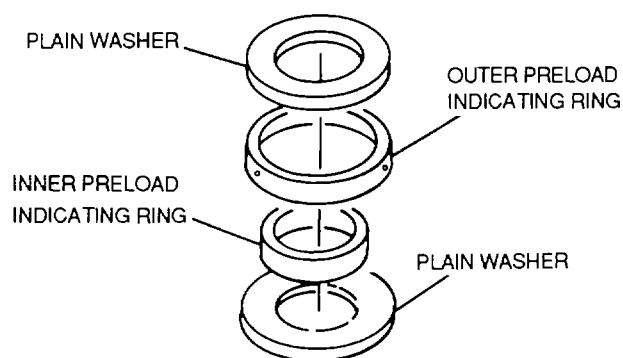

Figure 8-29. Preload Indicating Washers
b. Preload indicating Washers. The preload indicating washer, shown in figure 8-29, consists of two plain washers, one inner preload washer, and one outer preload washer. The plain washers mash the inner preload ring into the outer preload ring. When this has occurred, the nut or bolt is properly tightened (see figure 8-30).